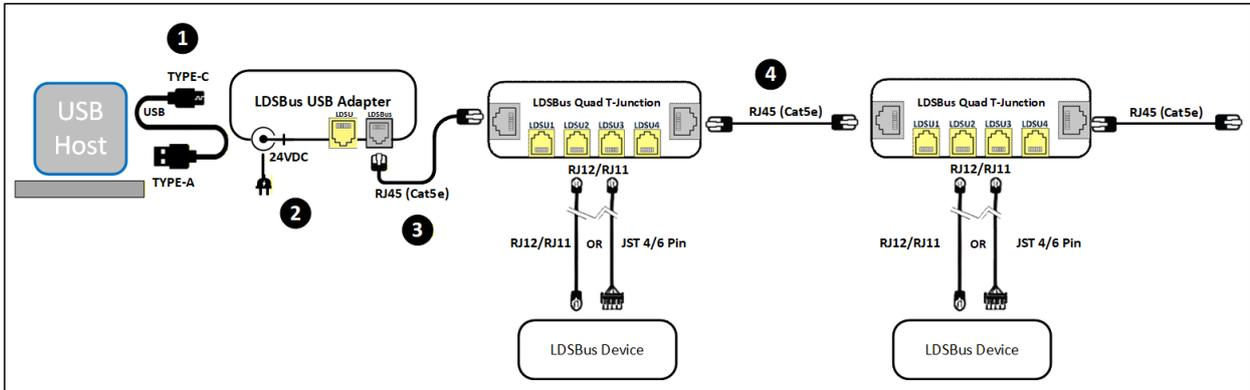

Figure 3 - LDSBus Setup
4. If there are more than one LDSBus Quad T-Junction devices, daisy chain together as shown in Figure 3 using RJ45 (CAT5e) cable(s). The termination on the last LDSBus device must be set to the ON state.